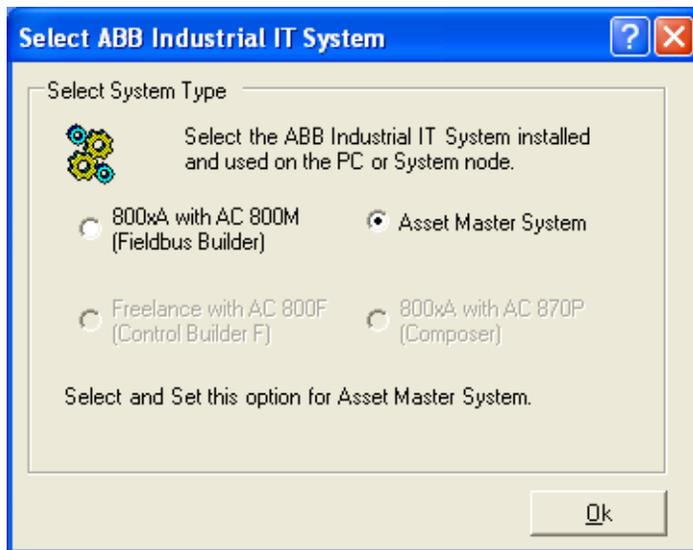

Figure 96. Select System Type
1. From the **Start** menu, select **(All) Programs > ABB Industrial IT 800xA > Device Mgmt > ABB Device Library Wizard**. The Device Library Wizard screen, similar to the one shown in Figure 96 is displayed.